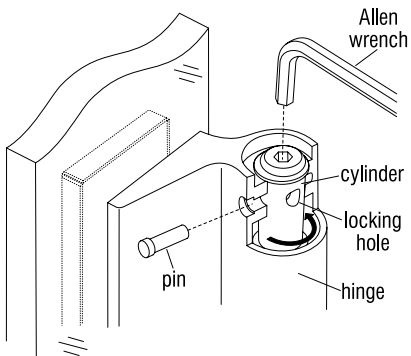

Figure 10
18. With door leaf closed, insert Allen wrench into bolt head located in the open hole at the top of the upper hinge. Turn the wrench counter clockwise so that the locking hole lines up with the open pin hole on the exterior of the hinge. Hold wrench in position and insert pin into hole to lock in place. Do the same process for the lower hinge on the door leaf (Figure 10).